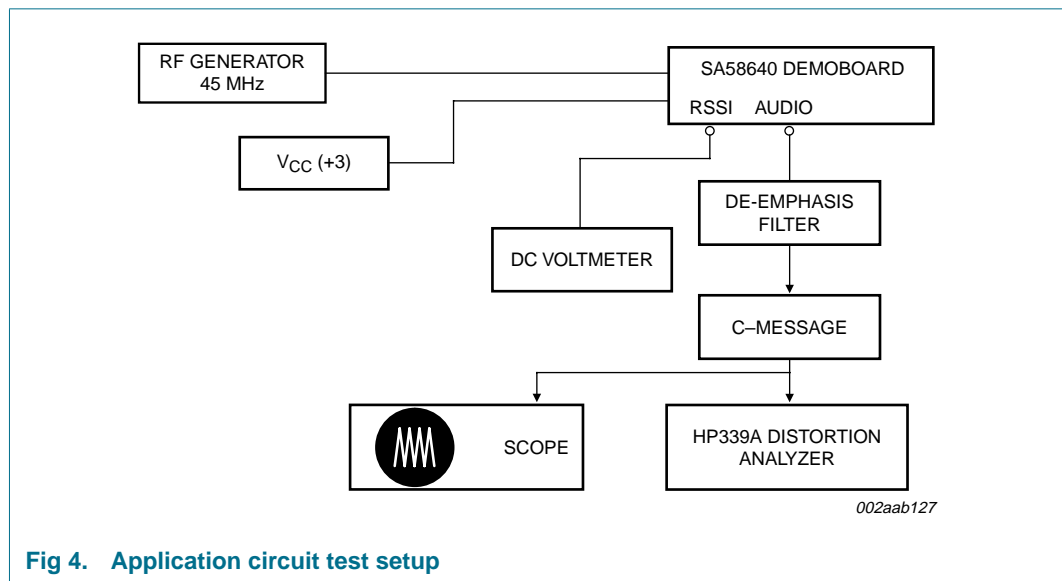

Fig 4. Application circuit test setup
The following list items 1 through 8 apply to Figure 4: